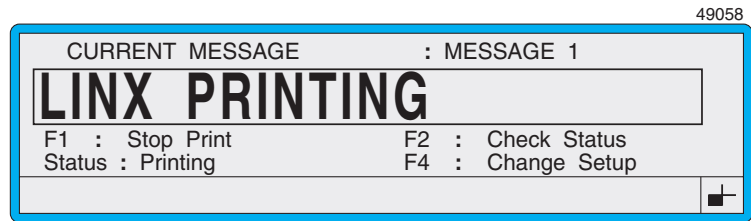

Figure 3-4 Current Message Screen—When Printing
- The options on the left side of the screen change to display “F1 : Stop Print” and “Status : Printing” (see Figure 3-4 below)
When the printer is in printing mode (printer Status is “Printing”—see Figure 3-4 on page 29), the time when a message prints, and the rate of print (printing speed) is controlled by the settings of the **Primary Trigger** option and the **Shaft Encoder** option in the **SETUP** menu, as follows: